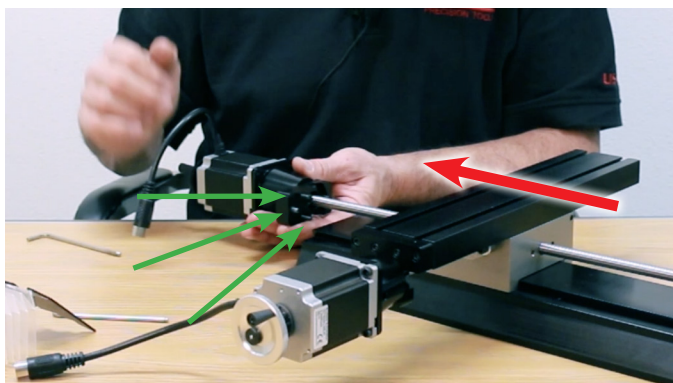

FIGURE 5—The red arrow shows the direction to pull the saddle. The green arrows are pointing to the three screws from the motor mount adapter.
3. Once you have all the screws disconnected from the base, pull the saddle forward a little bit and you will have all your screws sticking out of your adapter (see Figure 5).